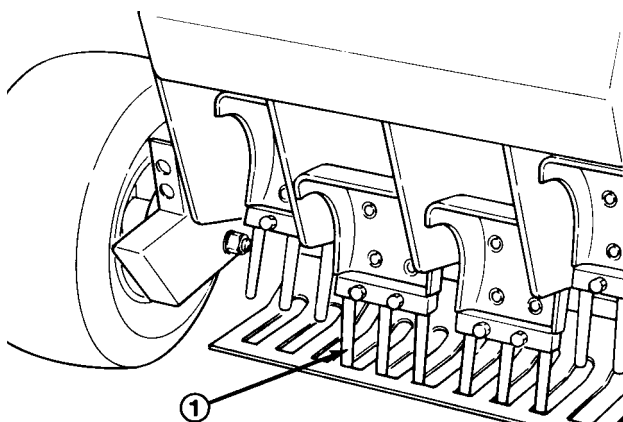

Figure 10
5. Tighten the mounting nuts to 100-110 ft/lb. torque (Fig. 10).